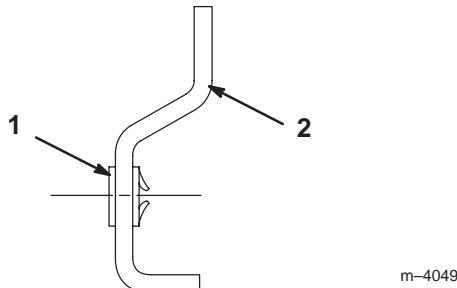

Figure 10
1. Install the speed nuts on each of the mounting brackets as shown in Fig. 10.